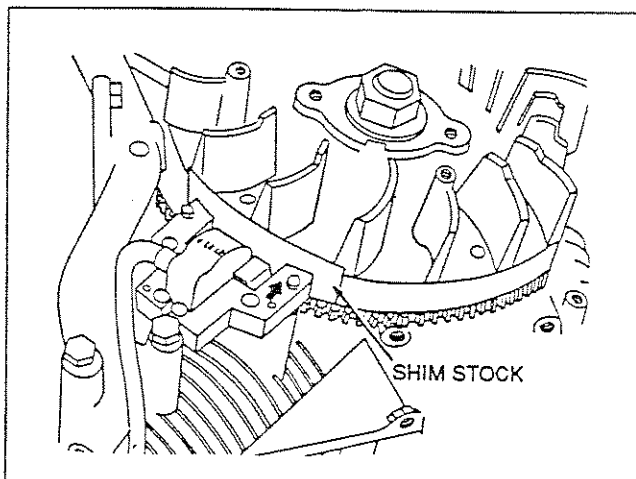

Figure 16. Setting Ignition Module (Armature) Air Gap
1. See Figure 16. Rotate the flywheel until the magnet is under the module (armature) laminations.